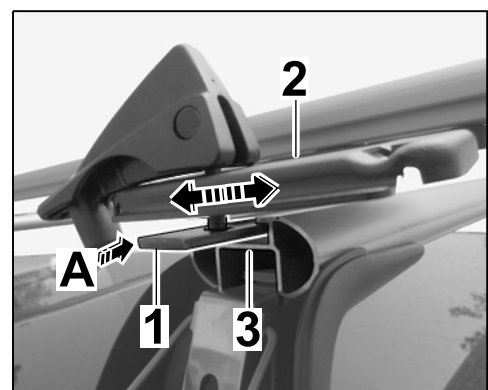

Figure 22
- 5.4 Guide the T-bolt of the rear retainer plate into the groove on the roof transport system carrier (⇒ Figure 22-A-).
Move the rear retainer plate on the racing bike carrier forward/back if necessary (⇒ Figure 22-arrows-).